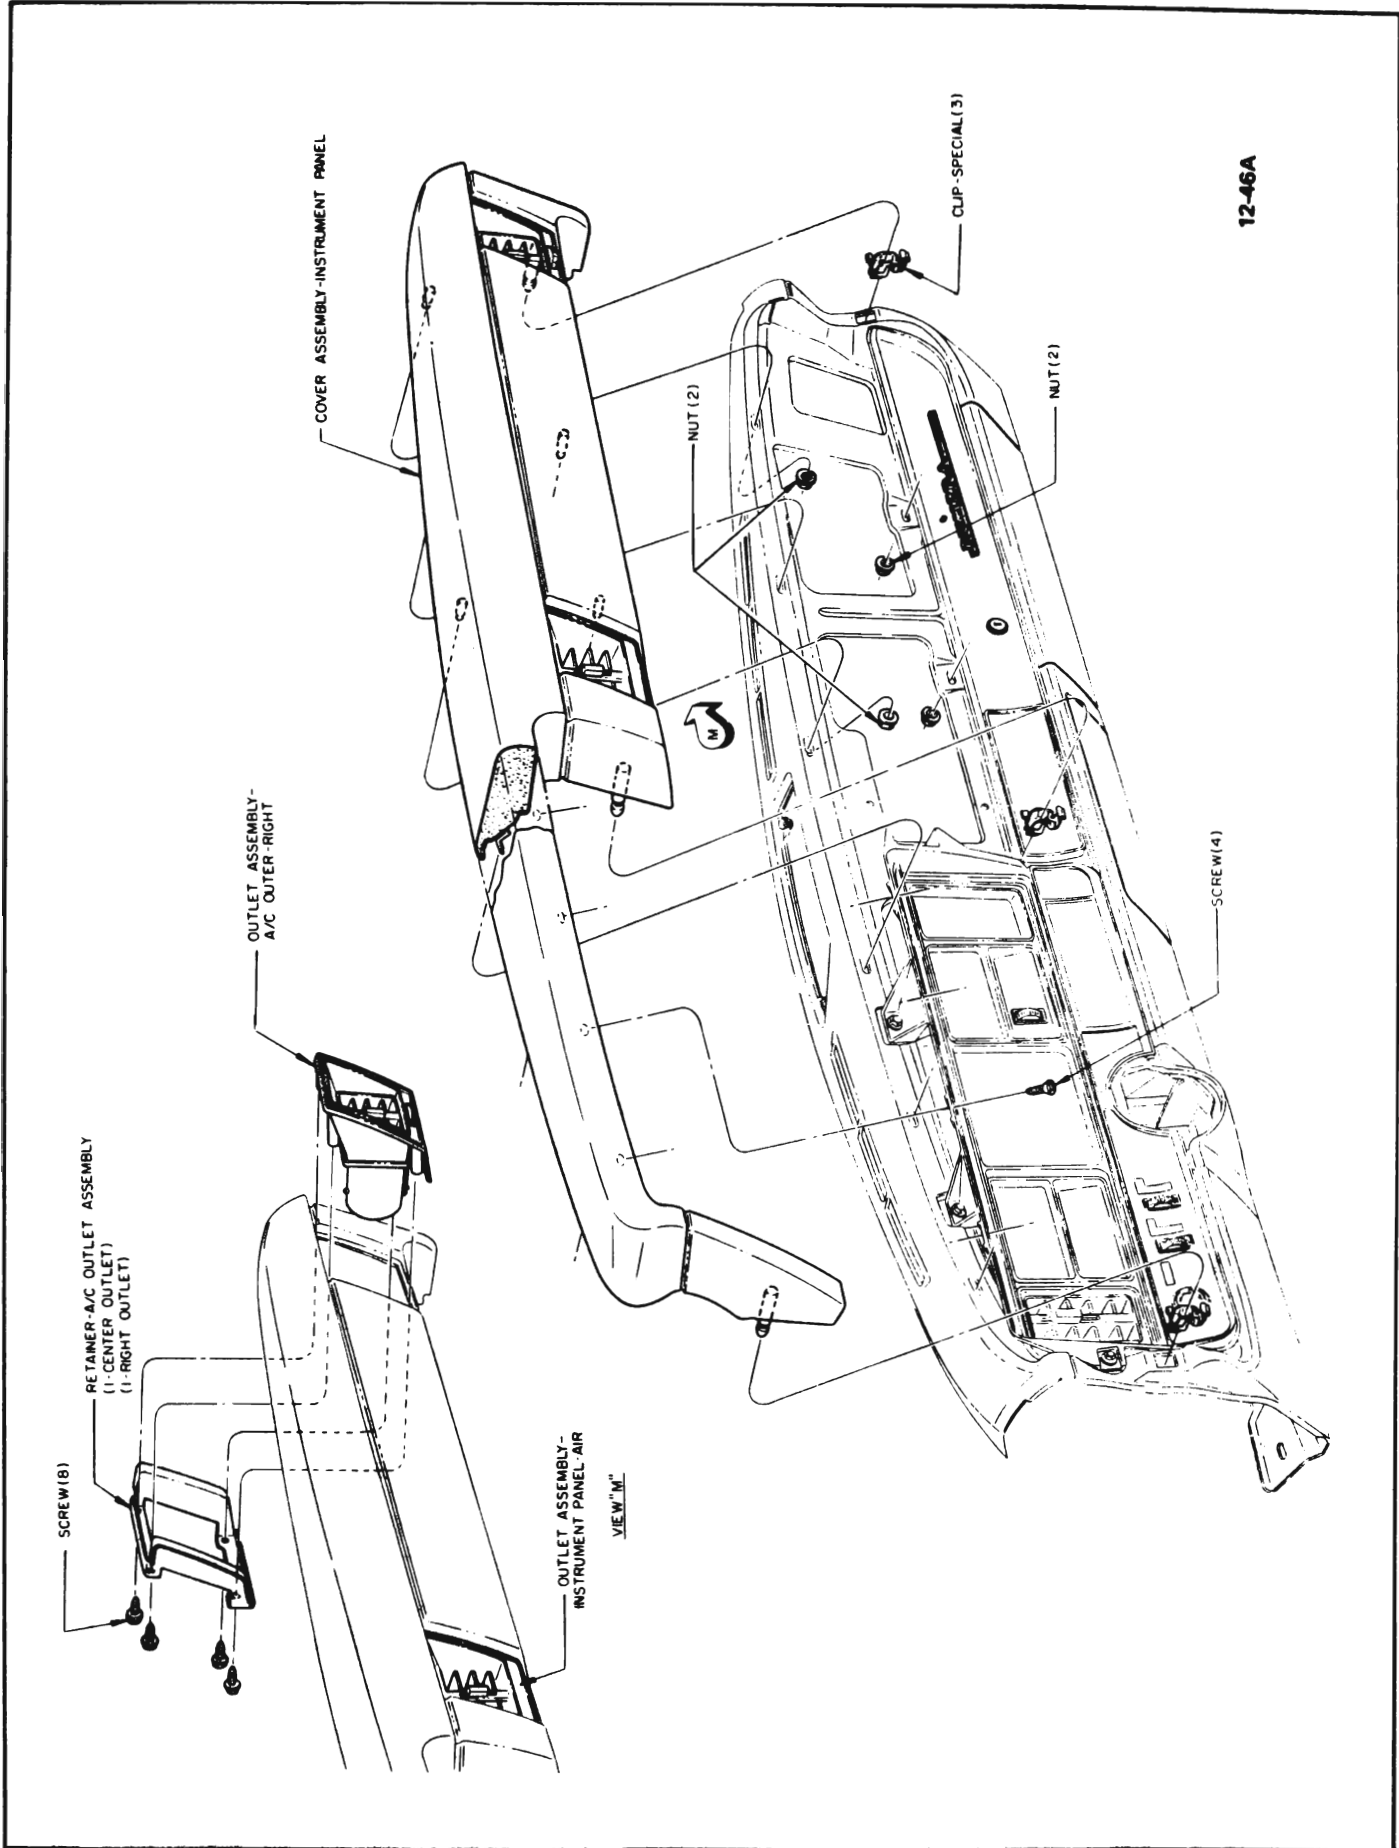

Figure 13-139 Instrument Panel Cover Installation, 49000 Series
4. Air distributor duct removal is shown in Figures 13-139 and 13-140.